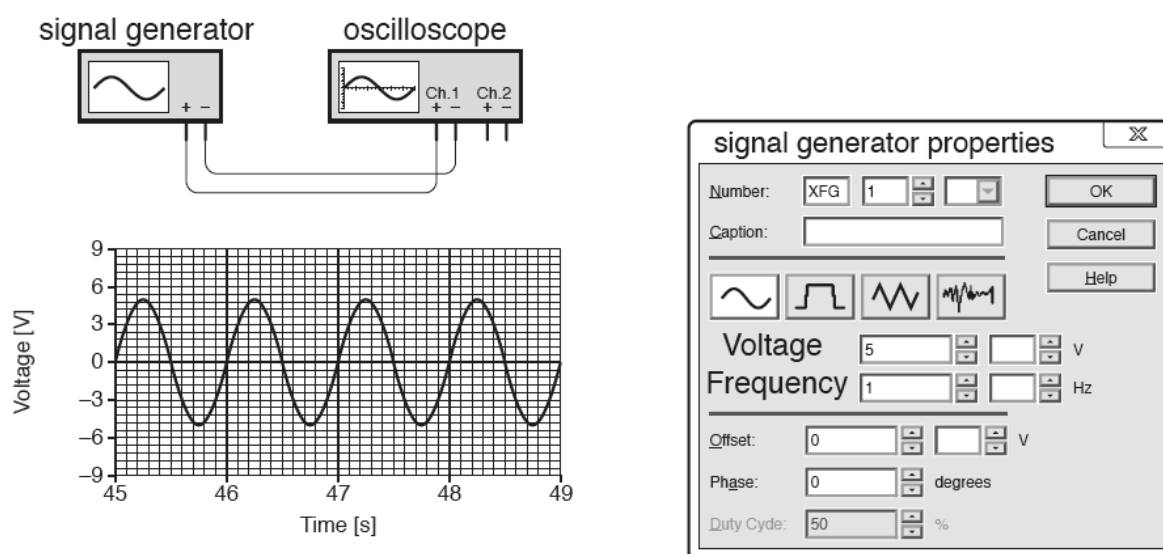

Fig. 3
- (b) Fig. 3 shows a virtual oscilloscope being used to display a signal from a signal generator. The signal properties can be changed in the signal generator properties window.